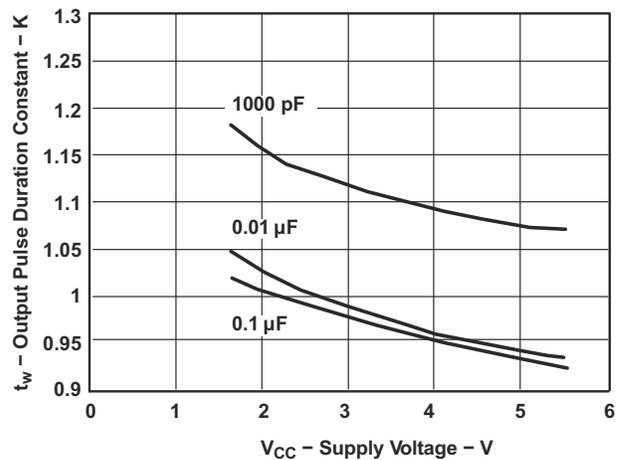

Figure 4-2. Output Pulse Duration Constant vs Supply Voltage
- The resistor value is calculated from the pulse length equation, $t_w = K \times R \times C$. By rearranging terms, $R = t_w / (K \times C)$. K is found in Figure 4-2 to be 0.925 for $C = 0.1\ \mu\text{F}$ and $V_{CC} = 5\text{ V}$. Since the pulse width is a range from 1 ms to 25 ms, a range of R values will be given to match. $10.8\ \text{k}\Omega < R < 270\ \text{k}\Omega$. 100 k Ω is selected because it is already on our bill of materials from the pull-up resistor and will result in an output pulse of 9.25 ms.
- The resistor value is calculated from the pulse length equation, $t_w = K \times R \times C$. By rearranging terms, $R = t_w / (K \times C)$. K is found in Figure 4-2 to be 0.925 for $C = 0.1 \mu\text{F}$ and $V_{CC} = 5 \text{ V}$. Since the pulse width is a range from 1 ms to 2 ms, a range of R values will be given to match. $10.8 \text{ k}\Omega < R < 21.6 \text{ k}\Omega$. 12 k Ω is selected because it is a standard 5% resistor value and yield a pulse length of 1.11 ms.